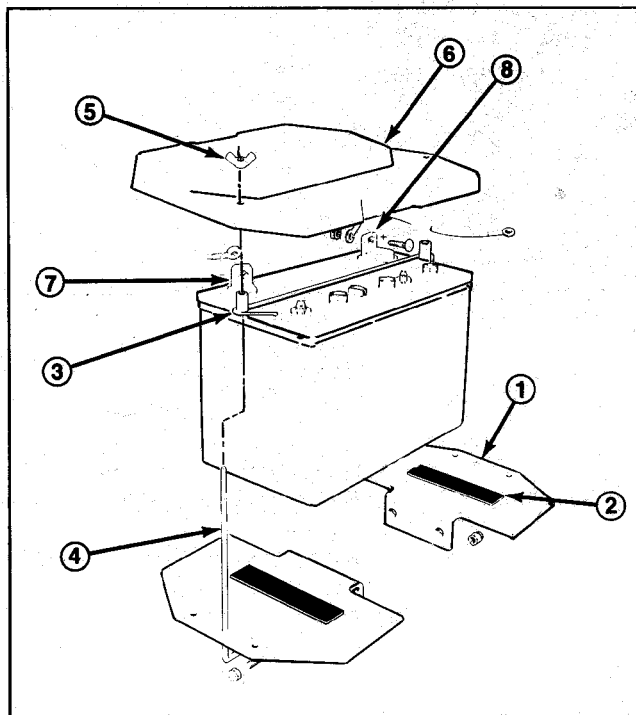

Figure 7
1. Mount battery holders to left rear corner of cutting unit carrier frame with (2) 3/8-16 x 1.25" capscrews and locknuts (Fig. 7).
2. Peel backing off battery pads and affix pads to battery holder (Fig. 7).
4. Position battery onto holders with terminal posts toward engine (Fig. 7).
5. Install the positive cable to the positive (+) terminal and the negative cable (black) to the negative (-) terminal of the battery and secure with carriage bolts and locknuts (Fig. 7).
6. Secure battery to holders with battery strap, support rods (2), battery cover and (2) 1/4-20 wing nuts (Fig. 7).